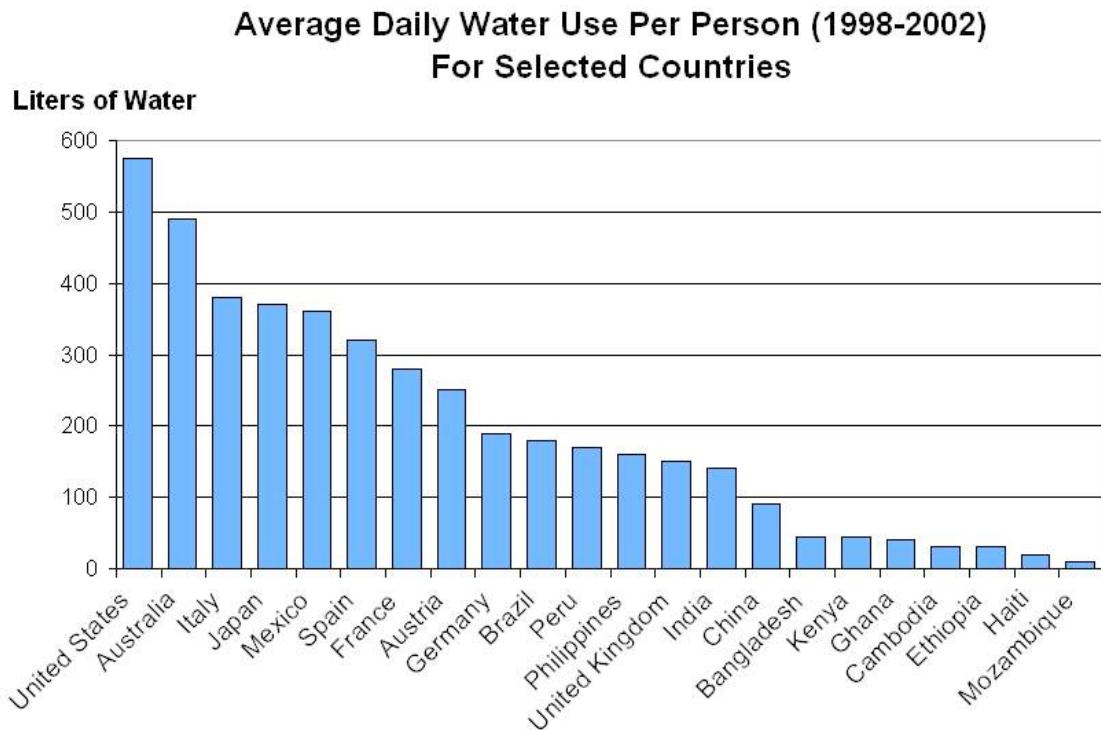

Figure 6. Average daily water use per person for selected countries, from 1998 to 2002.
14. According to Figure 6, which countries consume the most water?